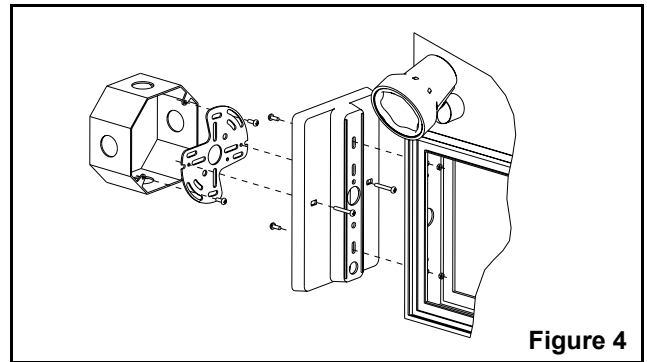

Figure 4
- e. Fasten the canopy to the exit (see fig. 4). Knock out the two holes near the wire way. Fasten the canopy-exit assembly to the spider plate using the provided 1" screws.